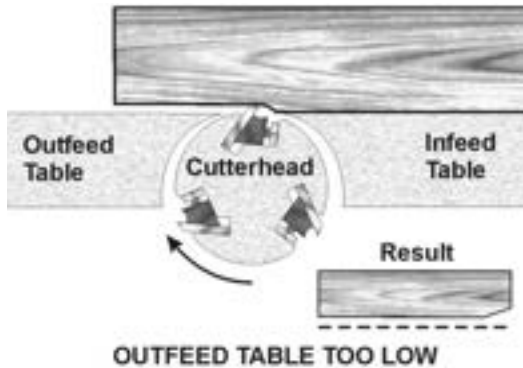

Figure 8-17
*Outfeed table too low* – If the outfeed table is too low, the work will have a gouge, or snipe, at the end of the cut (Figure 8-17).